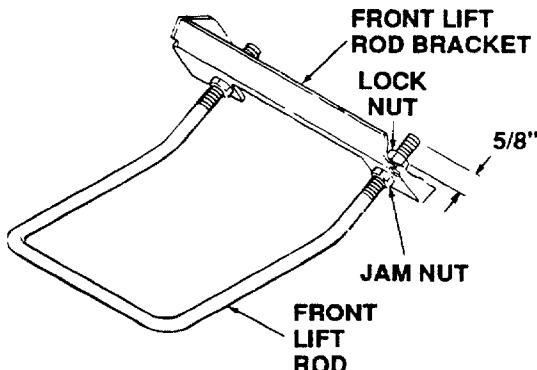

Figure 32
3. Initially adjust the front lift rod to allow $5/8$ inch of thread to protrude above both lock nuts of the front lift rod bracket. (Refer to Figure 32.)
- To adjust the downward tilt of the blades, adjustment of the front lift rod is required. Refer to Figure 32 and proceed as follows: